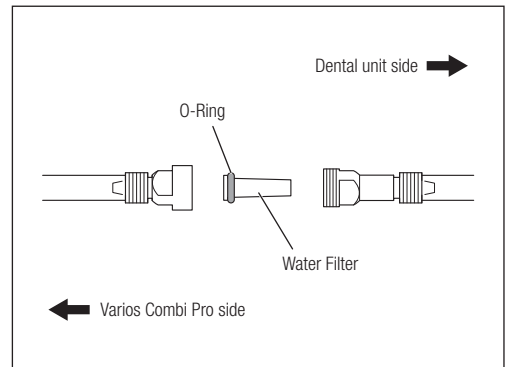

Fig. 57
- 5) Place the new Water Filter with the O-ring on the Varios Combi Pro side and reassemble by following the disassembly steps in reverse (Fig. 57).